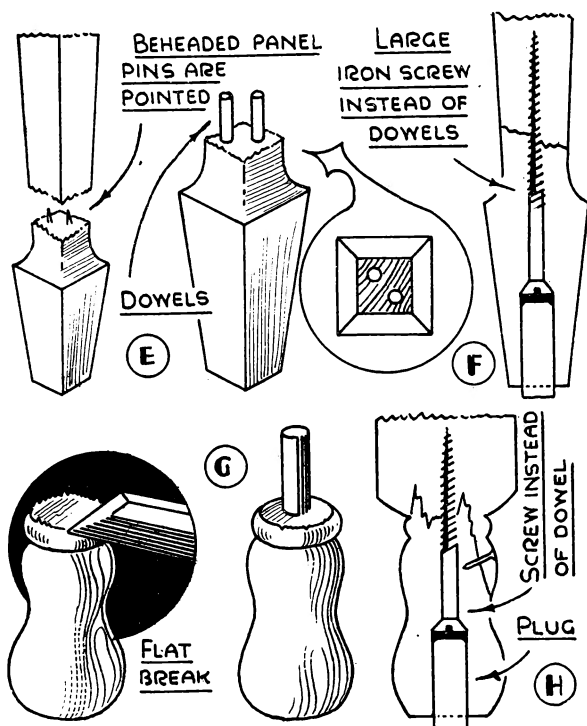

FIG. 3. MENDING SQUARE AND TURNED FEET.
**Front Chair Leg Repair.**—A difficult thing to repair is a broken front chair leg (E, Fig. 3). A usual method employed is to dowel the parts together, but it takes patience and care to carry out successfully. Indeed, it is a method not to be recommended; one can never get the broken-off portion joined neatly and satisfactorily to the leg. When the break is flat, as shown, there is a reasonable chance of effecting a neat repair.
If the break is a long, slanting one, of course, it only requires to be glued and nailed (or screwed) together. But, when flat and situated high up from the foot, dowelling is essential. When low down, the writer finds it easier and more convenient to bore a hole right through the foot for a single large screw (see F, Fig. 3). The screw not only ensures a stronger repair; it also draws the foot tightly against the leg.
**Turned Feet.**—The feet on most turned legs are often easily broken off where weakened by a bead. Such breakages are, fortunately, flat (see G, Fig. 3).
In some cases, however, the break is not flat, such as shown at H, Fig. 3. Here, again, the single screw comes to the rescue. Note, too, the use of a panel pin to keep the "shaver" of wood correctly in place. Alternatively, the repair could be bound with cord (after gluing) until the glue sets, thereby avoiding the chance of splitting the wood.